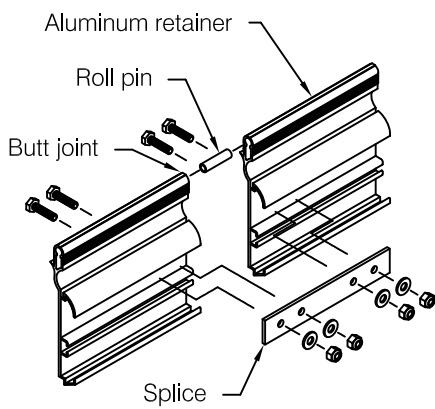

fig 5
- A minimum of 4" from end of retainer at splices to avoid interference with hardware shown in **fig 5**
- Step 9:** Refer to **fig 5** for splicing of aluminum retainer as required on longer handrail lengths. Always locate splice joints a minimum of 4" from bracket locations. For best results offset butt joint in cover from splice in aluminum retainer.